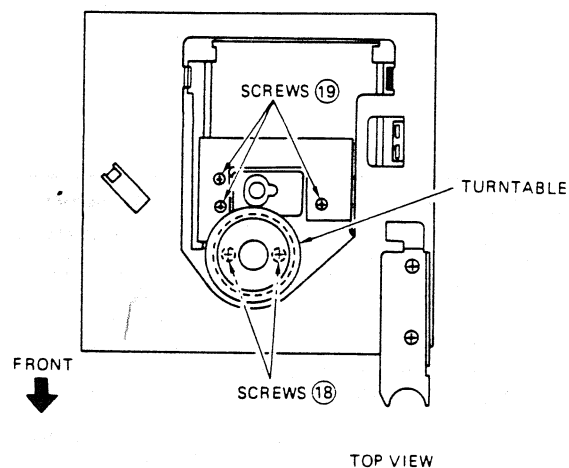

Fig. 13
- 2) Remove the turntable from the motor shaft and remove screws 18. (Fig. 13)
- 1) Remove 3 screws 19. (Fig. 13)